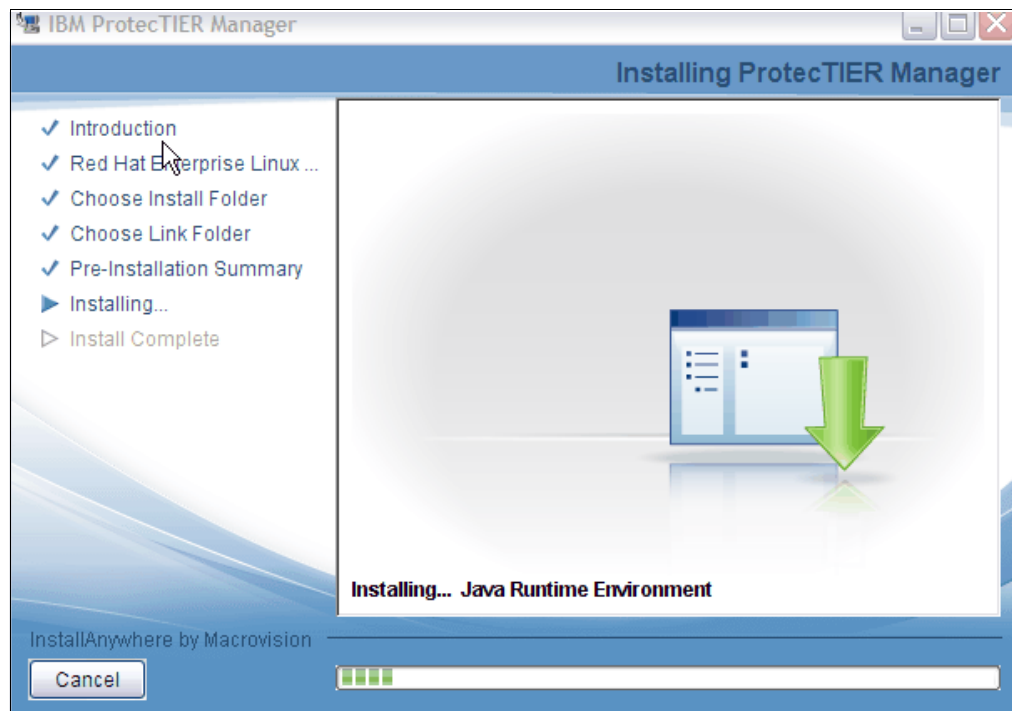

Figure 5-4 Installing ProtecTIER Manager window
7. Click **Install**. The Installing ProtecTIER Manager window opens and ProtecTIER Manager is being installed on your computer (Figure 5-4).